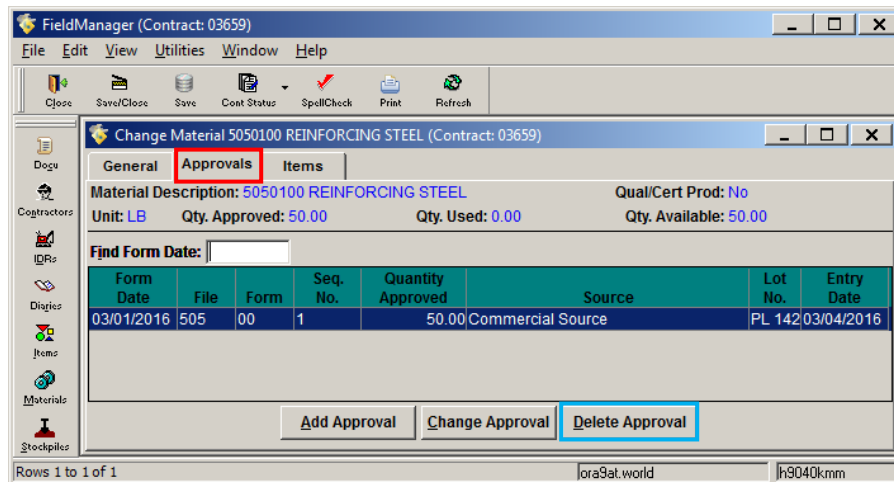

Figure 6-21. Change Material – Approvals Tab
3. Click on the **Approvals** tab (Figure 6-21).